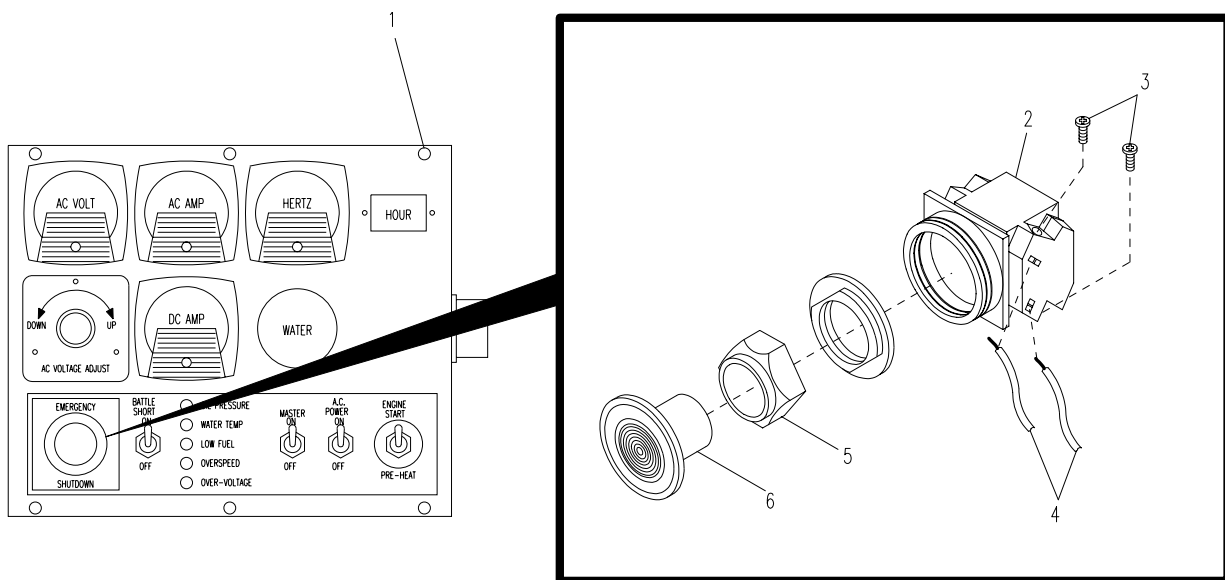

Figure 4-48. Emergency Shut-Down Switch
- a. Remove ten screws (caged nuts (SICPS), machine screws (JTACS and WIN-T)) (1, Figure 4-48) securing APU control unit cover to chassis and remove cover.
- b. At rear of push button (2), identify and tag terminal leads (4).